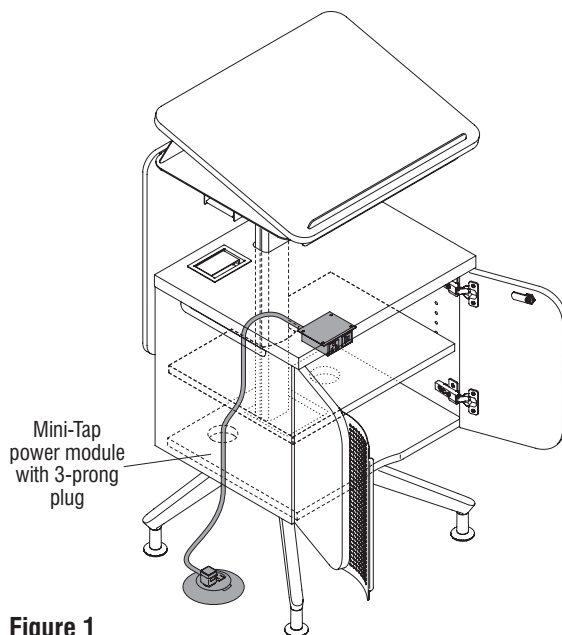

Figure 1
1. Place lectern at its final location and lock the two front, user side casters in place (Figure 1).
2. Plug the power module into a grounded outlet, only after all other components have been installed (Figure 1 & Detail A).